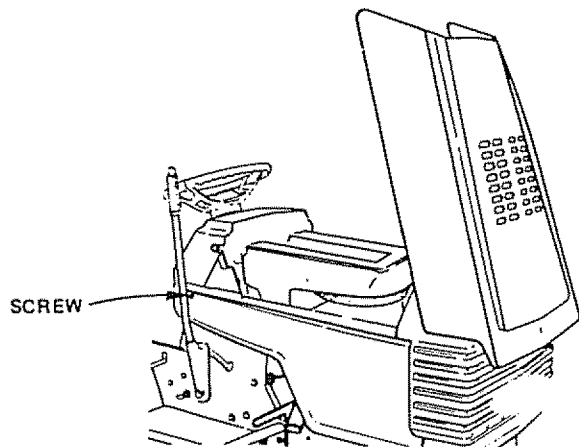

FIGURE 45
- b. Unscrew one Screw at rear of each Side Panel (Fig. 45).